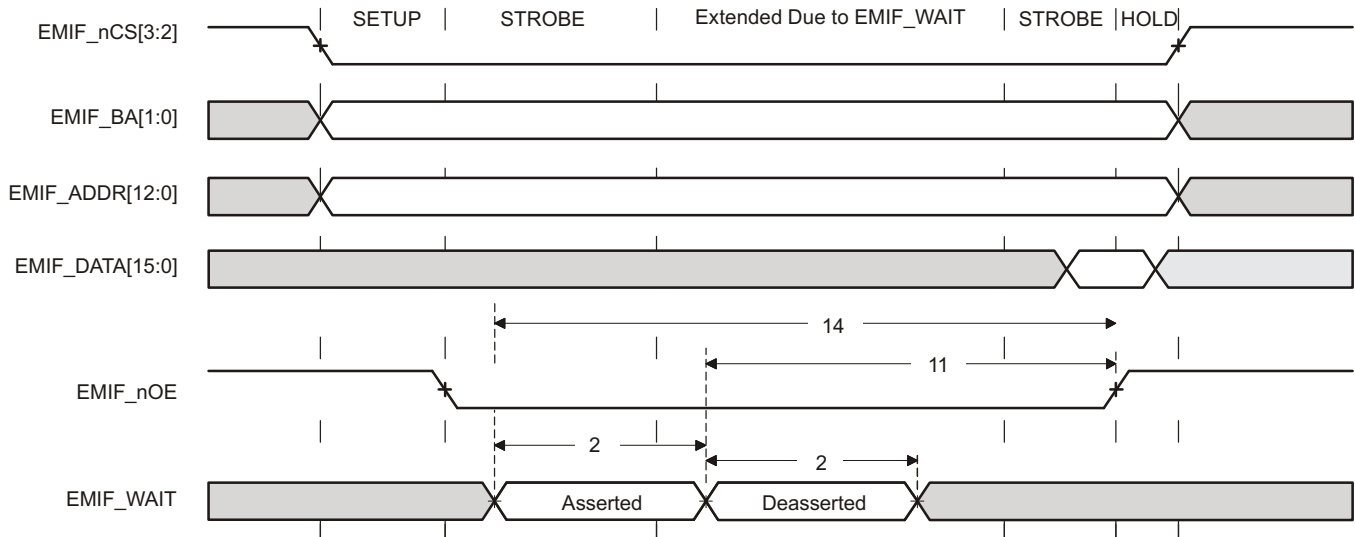
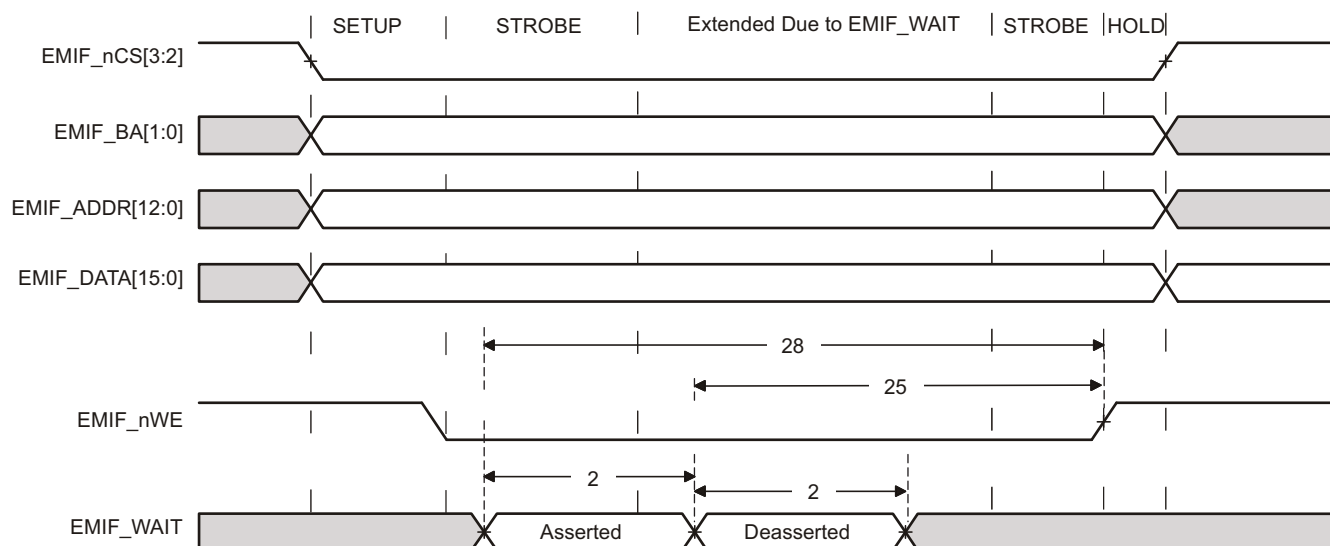

Figure 6-14. EMIFnWAIT Read Timing Requirements
Figure 6-16. EMIFnWAIT Write Timing Requirements
(1) E = EMIF\_CLK period in ns.
(2) Setup before end of STROBE phase (if no extended wait states are inserted) by which EMIFnWAIT must be asserted to add extended wait states. Figure 6-14 and Figure 6-16 describe EMIF transactions that include extended wait states inserted during the STROBE phase. However, cycles inserted as part of this extended wait period should not be counted; the 4E requirement is to the start of where the HOLD phase would begin if there were no extended wait cycles.